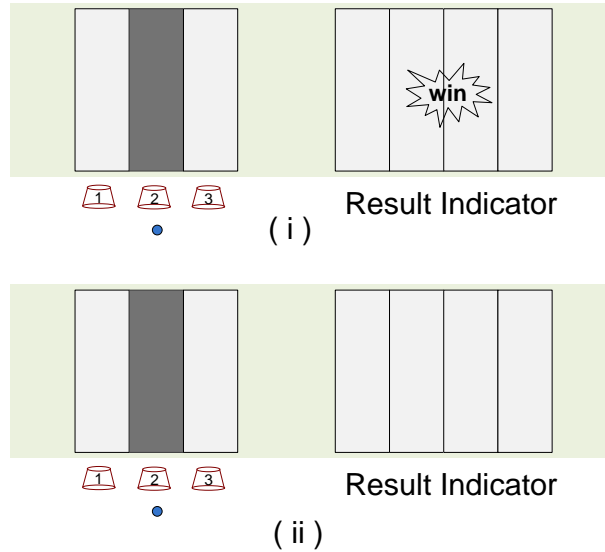

Figure 3 (c)
- iii. If the guess is incorrect, as illustrated in Figure 3 (c)(ii), the score on LCD is decremented.